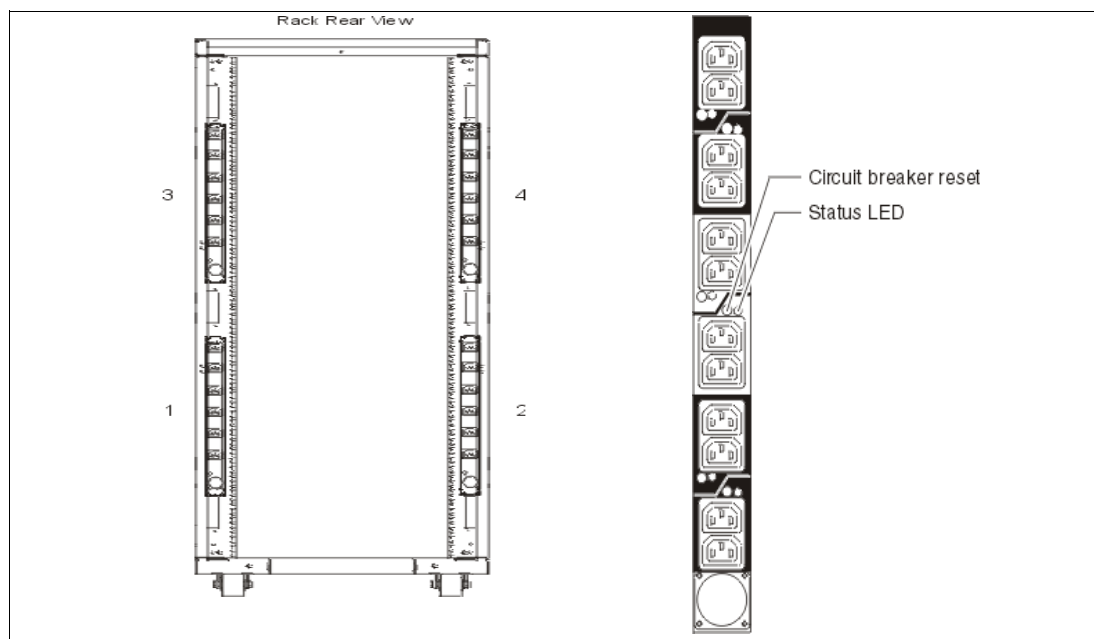

Figure 1-4 PDU placement and PDU view
- ▶ Up to four power distribution units (PDUs) can be mounted in the PDU bays (see Figure 1-4 on page 18), but others can fit inside the rack. See 1.5.6, “The ac power distribution unit and rack content” on page 17.
Four PDUs can be mounted vertically in the T00 and T42 racks. See Figure 1-4 on page 18 for placement of the four vertically mounted PDUs. In the rear of the rack, two additional PDUs can be installed horizontally in the T00 rack and three in the T42 rack. The four vertical mounting locations will be filled first in the T00 and T42 racks. Mounting PDUs horizontally consumes 1U per PDU and reduces the space available for other racked components. When mounting PDUs horizontally, we recommend that you use fillers in the EIA units occupied by these PDUs to facilitate proper air-flow and ventilation in the rack.